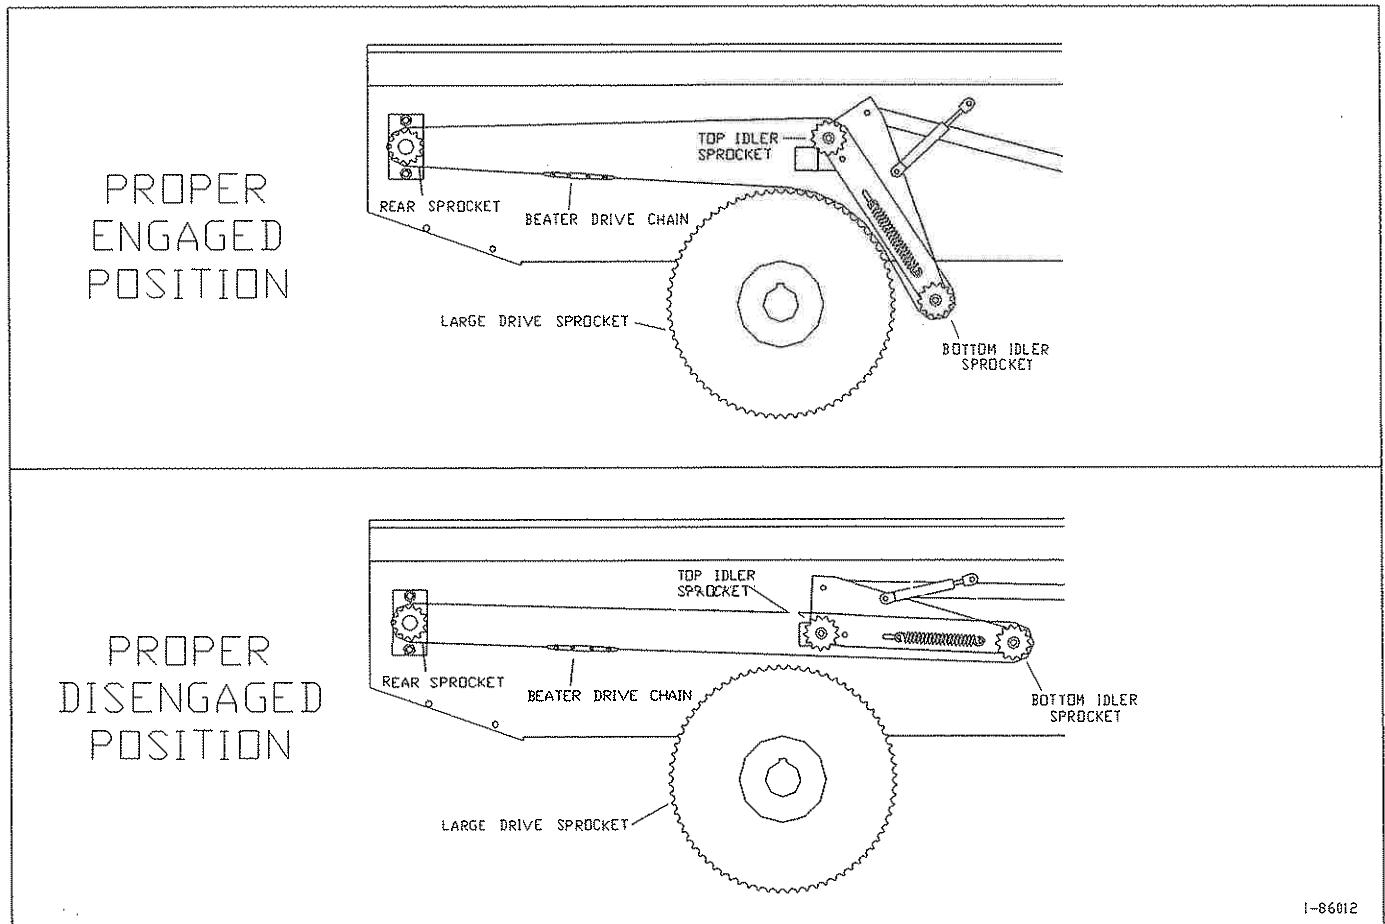

Figure 4C- Beater Drive Chain Installed in the Proper (Engaged) Position
3. Remove the right safety shield by removing the three (3) bolts, washers, and nuts.
5. Refer to Figure 4C. Re-install the chain on the rear sprocket.
8. Re-install the chain over the top idler sprocket by pushing the top idler sprocket to the rear of the spreader. Ensure that the chain is positioned properly as shown in Figure 4C.